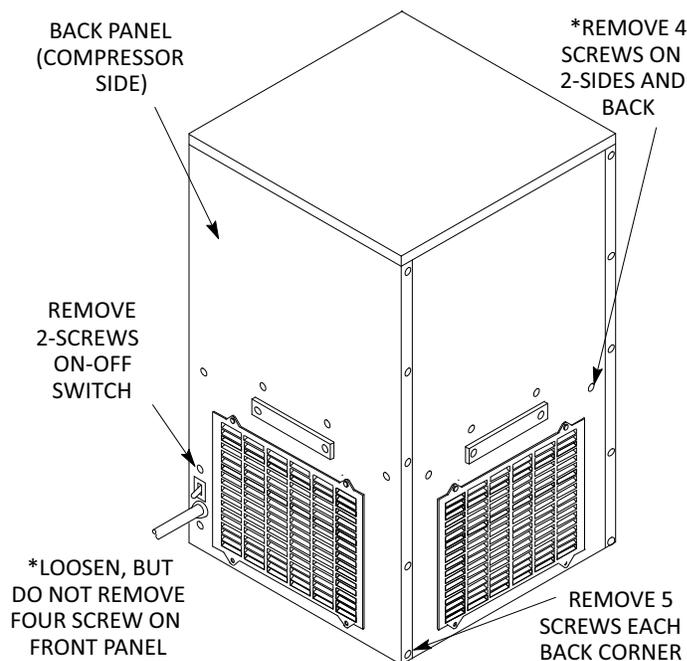

Figure 2 Cooling Unit Panels
5. Remove back panel (opposite syrup line connections) for access to compressor. See Figure 2.